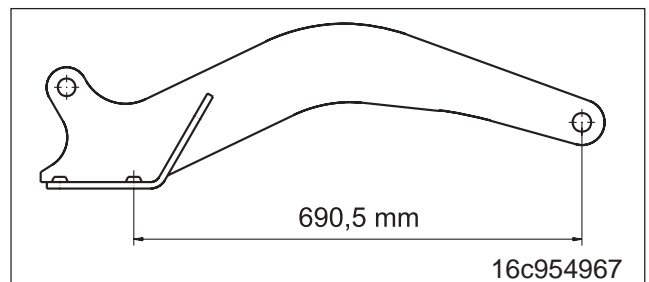

Fig. 5.2
1. Carrying arm (Fig. 5.2) for Tooth Packer Roller PW 500 and Wedge Ring Roller KW 450